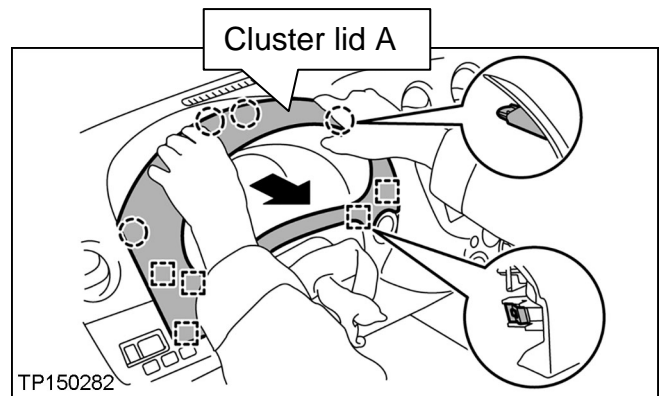

Figure S12
- See Figure S12 for clip and pawl locations.